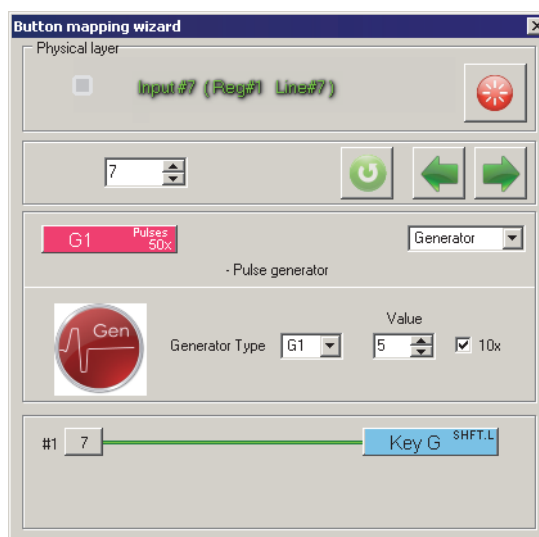

Fig. 4.34.
**Button mapping wizard** dialog for generators is shown on Fig. 4.34.
Flaps toggle switch (Fat Black Mamba) settings are shown on Fig. 4.34. It is used for manual gear retract. Keystroke  $\langle Shift \rangle + \langle G \rangle$  is mapped to lower toggle switch position. When you lower handle this keystroke will be generated 50 times. It guaranteed retracting gear of Polikarpov I-16 in Il-2 Sturmovik.